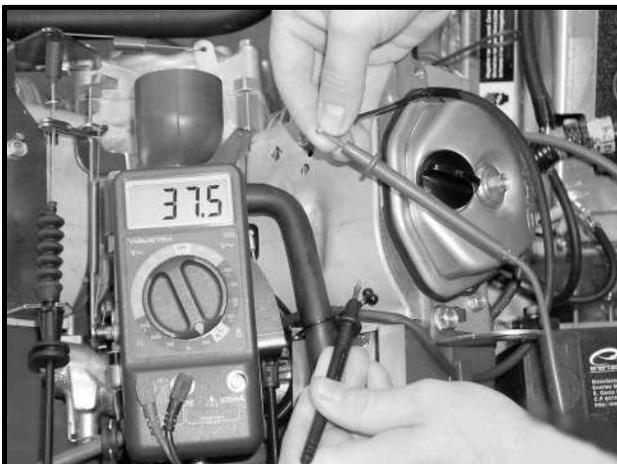

Figure 11a-26 Carburetor Solenoid Coil Resistance
- 2.4. Measure the resistance between the carburetor solenoid coil wire and the frame or engine (ground) (**Figure 11a-26, Page 11a-31**) The resistance should be approximately 37.5 ohms.